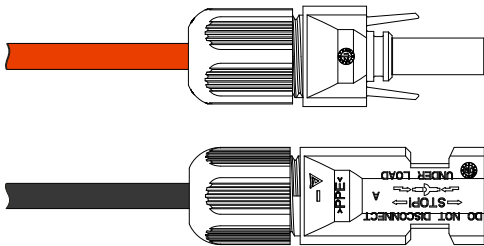

Figure3-18 Tighten the sealing nuts
Step 4 Tighten the sealing nuts of positive connector and negative connector to the corresponding insulation crusts respectively, as shown in Figure3-18.